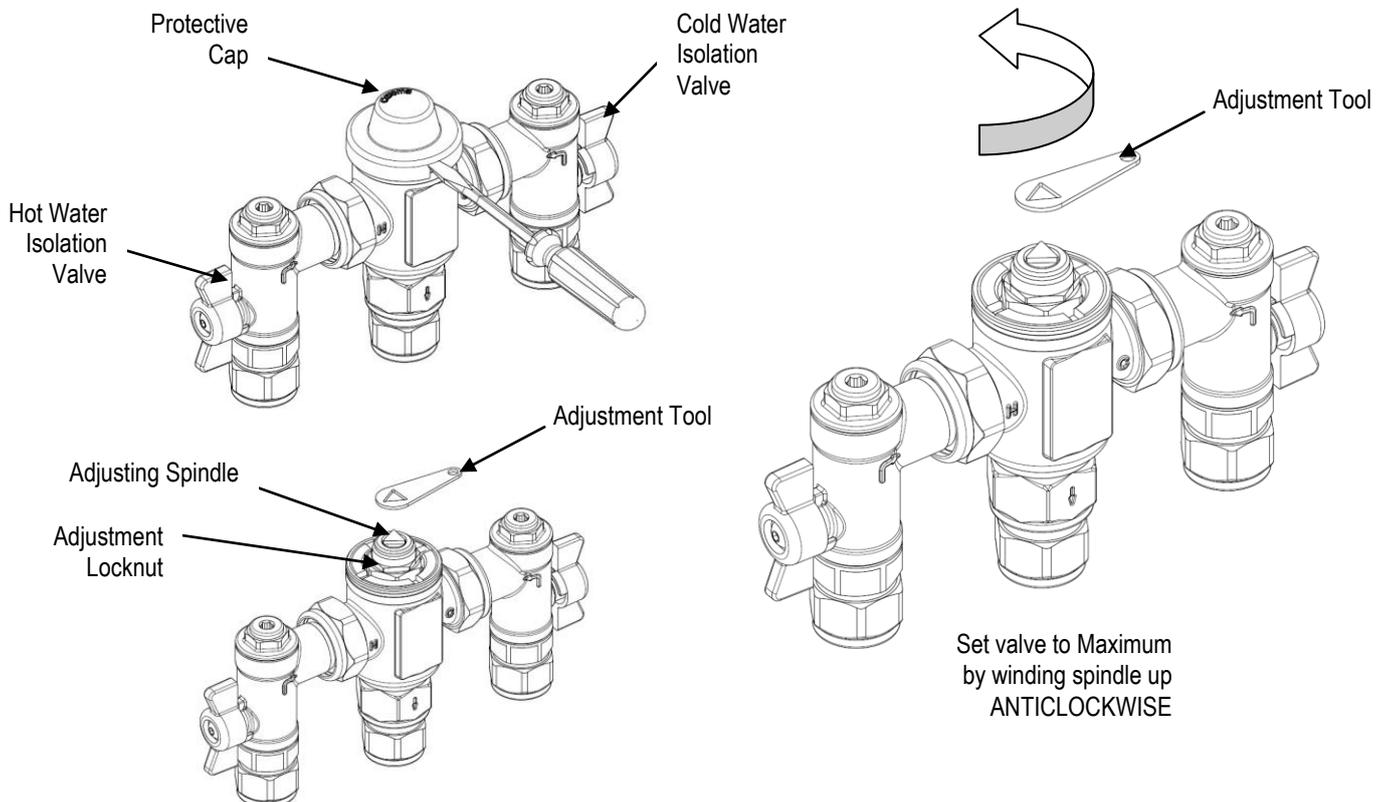

Figure 9: Adjusting the Mixed Water Temperature for Thermal Flush
3. Using a small, flat bladed screwdriver, carefully lever the Protective Cap off the Valve (Figure 9) Loosen the Adjustment Locknut several turns.